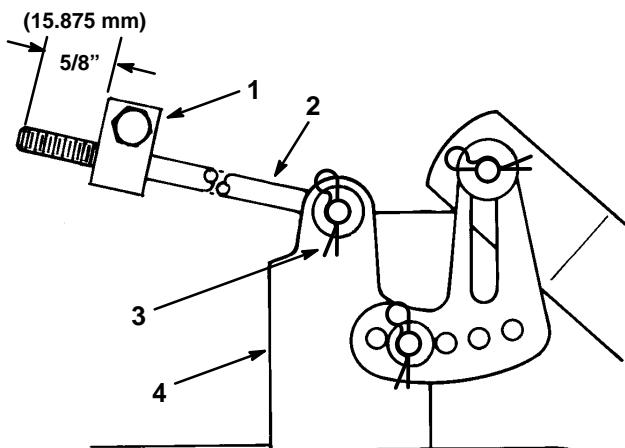

Figure 50
5. Measure the length of the rod extending out the front of the adjusting block on the sides of the chassis (Fig. 50). If the rod length is not $5/8$ ” (15.9 mm), remove the hair pin cotter and washer from the end of the rod (Fig. 50), and turn the rod until the $5/8$ ” (15.9 mm) dimension is obtained. Then install the end of the rod into the hole in the mower mount and secure in place with washer and hair pin cotter. Repeat this procedure on the opposite side of the mower.